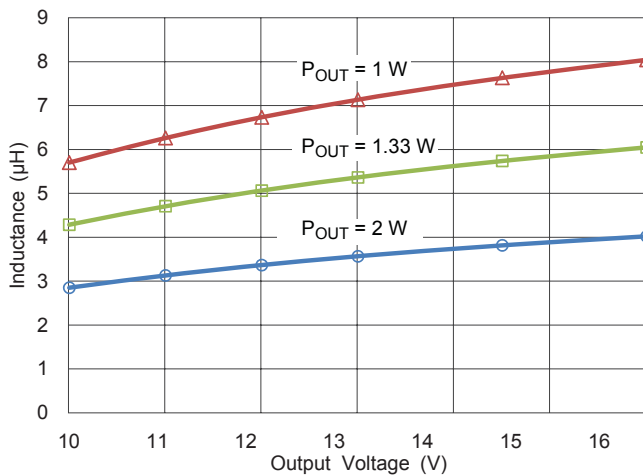

Figure 10. Minimum inductance for CCM as a function of output voltage (at  $V_{VIN} = 5.5$  V and  $f_{SW} = 1$  MHz)
Figure 10 shows that the minimum inductance required to ensure CCM operation increases with higher output voltage (hence also with higher duty cycle), for a boost regulator with fixed input voltage and output power. Note that the chart is calculated at an  $f_{SW}$  of 1 MHz. If the frequency is reduced by half, to 500 kHz, the inductance requirement is doubled.
- Inductance. This usually determines whether the boost converter operates in DCM or CCM. Refer to figure 10, or calculate minimum required inductance using the equations provided.